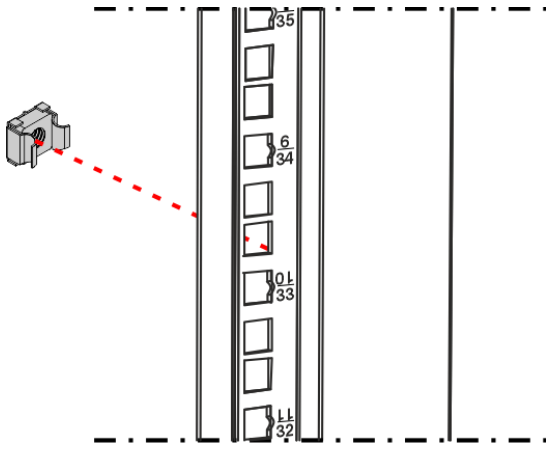

Fig. 24
- 01) Put 4 **cage nuts (A)** in front of the holes on the vertical brackets at the place where you want to mount the equipment, as shown in Fig. 24.